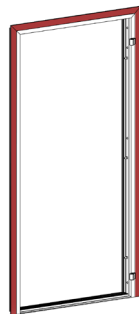

Figure 8.
3.2. The casing (or trim) is fastened around the perimeter of the door frame (note: if there are sidelights in the entry unit, then they should be attached to the door frame) before installation into the opening (figure 8). To ensure a smooth installation, the top casing is aligned with the side casings, which are attached to the door frame (entry unit) box. Then, the casings are secured around the perimeter with screws into pre-drilled holes.